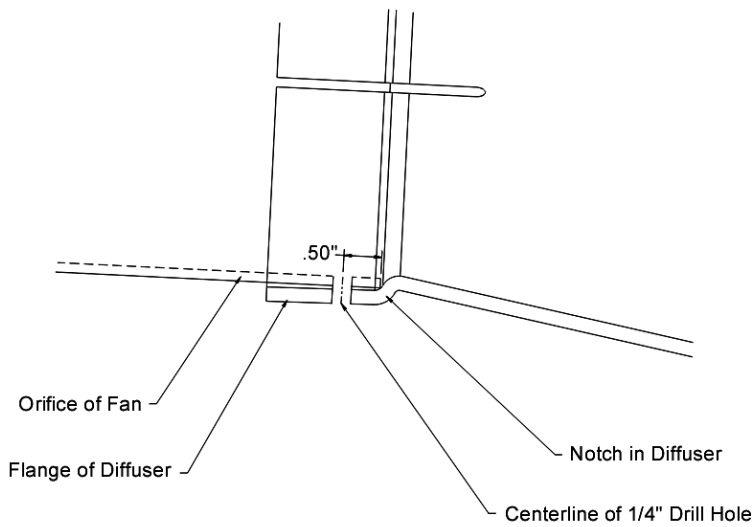

Figure 4
Slide the one-piece diffuser around the outside of the orifice until the orifice touches the notched section of the diffuser. See Figure 4. Drill (6) 9/32" holes into diffuser flange (one in the center of each notched section on the diffuser flange). Start these holes from the orifice side (from inside drilling the fiberglass orifice first and the cone second). The (6) holes should be approximately 1/2" in from the edge of the orifice on the fan. See Figure 4. Secure the diffuser flange to the orifice with 1/4" bolts (insert bolts from the inside of the orifice), lock nuts and washers provided.